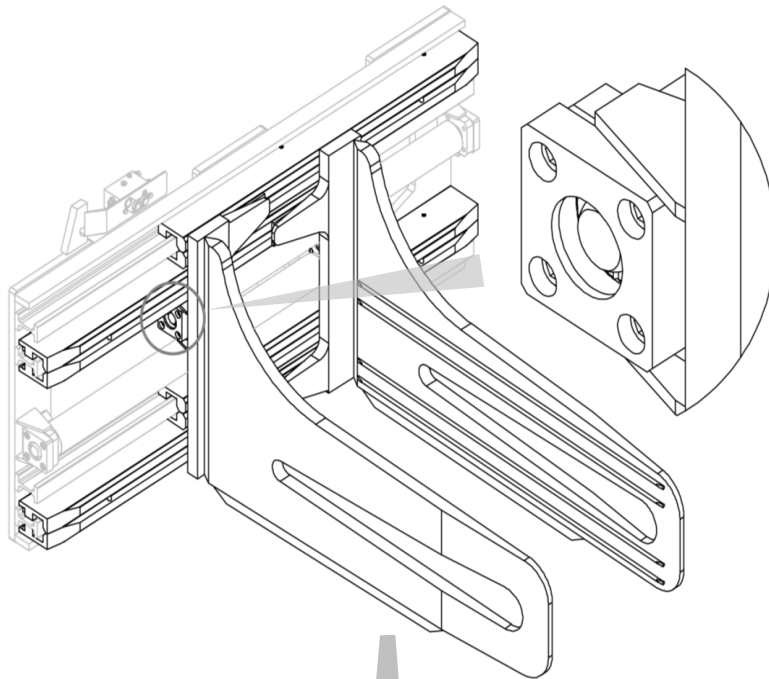
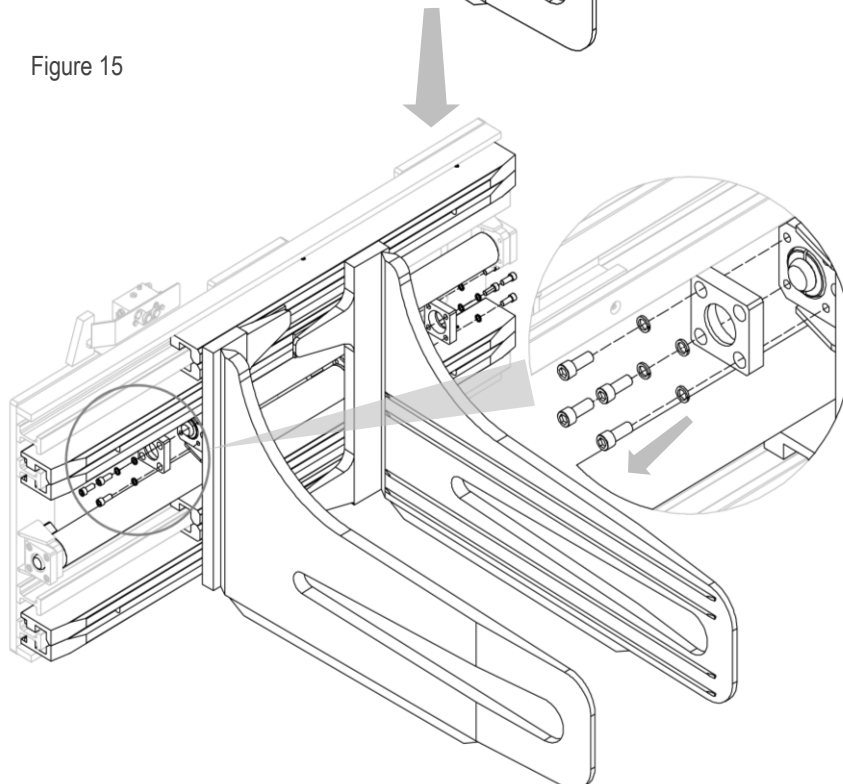

Figure 15
Figure 16
2. Remove the counterflanges, with their bolts and spring washers, that secure the jaws to the cylinders (see *Figure 15* and *Figure 16*).